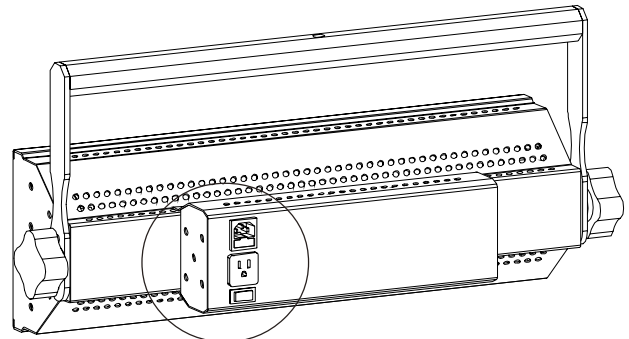

Figure 11
2. Remove fuse holder and check for wear (Fig. 11). If fuse is blown, replace with a new fuse or the on-board spare (Fig. 12).